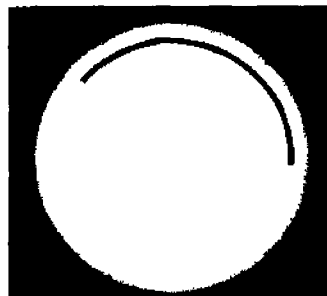

Fig 3–6. Spinning Top Continuous line Image
- Three-phase and capacitor discharge units will show a **continuous line** image (see Fig 3–6).